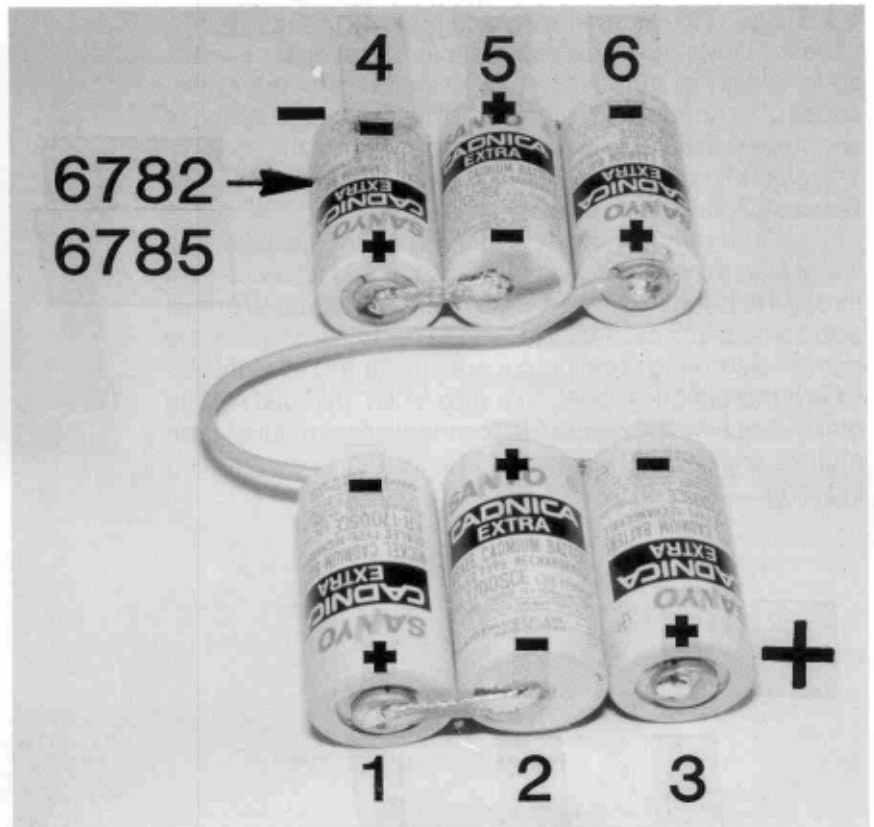

Fig. 73
□ Figs. 73 & 74— BATTERIES.
Now solder all the rest of the cells together in the exact way as shown in Figs. 73 and 74. Do not solder the long wire yet.